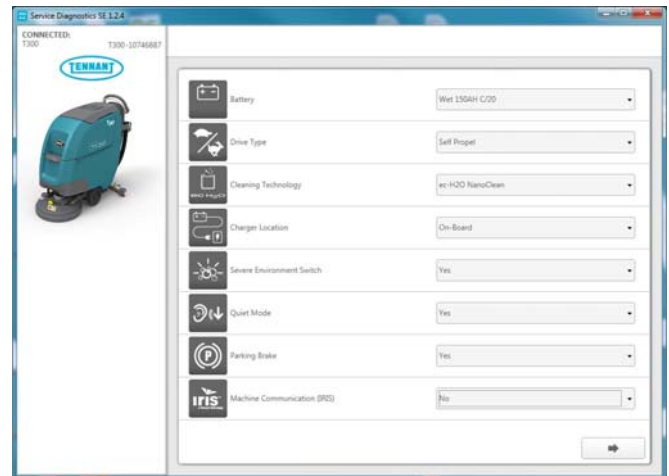

Fig. 8
7. Carefully select the correct installed options on the machine (Figure 8). This may visually require inspecting the machine to confirm all the installed options. Press the arrow button to advance to next screen.